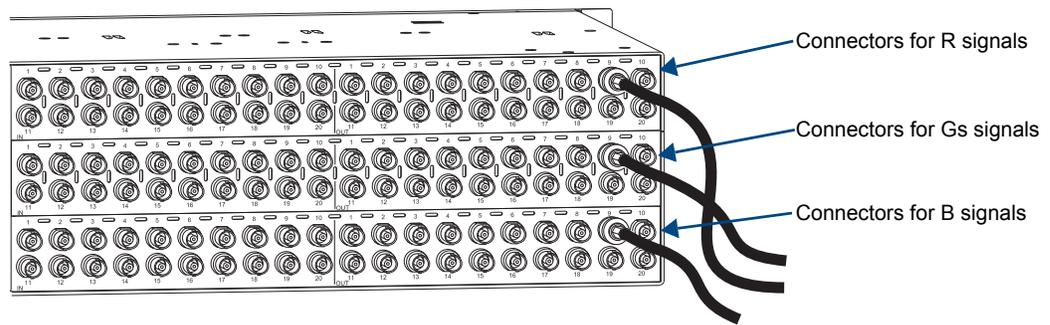

FIG. 28 Fasten cable onto the input or output BNC connector
The example in FIG. 28 shows a BNC cable attached to Output 9 on each board to route the R, Gs, and B components of an RGB signal.
1. Fasten the cables onto the input and output BNC connectors (FIG. 28).